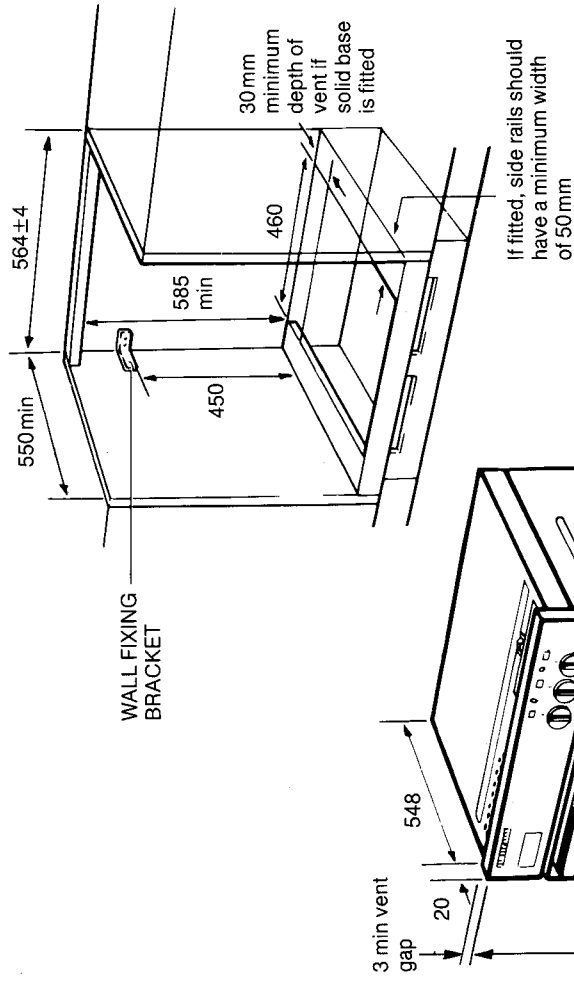

Fig. 1
1. For a tall housing unit the recess under a work surface are given in Fig. 1. For a tall housing unit the recess should be similar. If the housing unit is not already attached to the wall this must be done using the bracket supplied.